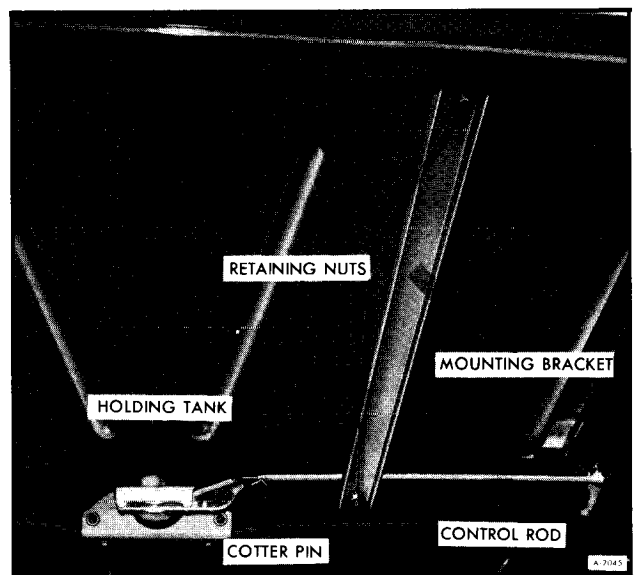

Figure 2—Holding Tank Mounting
5. Remove cotter pin from valve rod and remove control rod (See figure 2).
9. Remove two retaining nuts from each of the two mounting brackets (See figure 2).